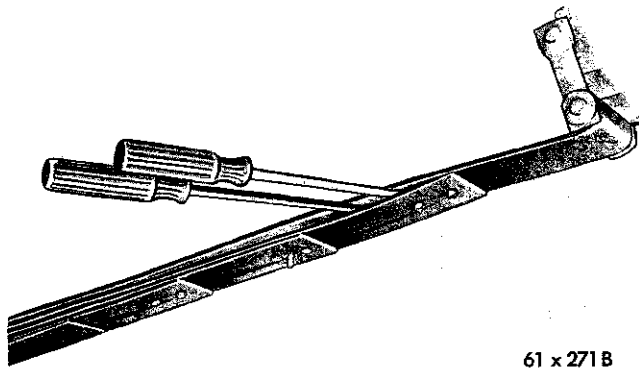

Fig. 6—Installing the Inter Liner Fastener
(3) Force the fastener into the hole in the spring leaf (Fig. 6).